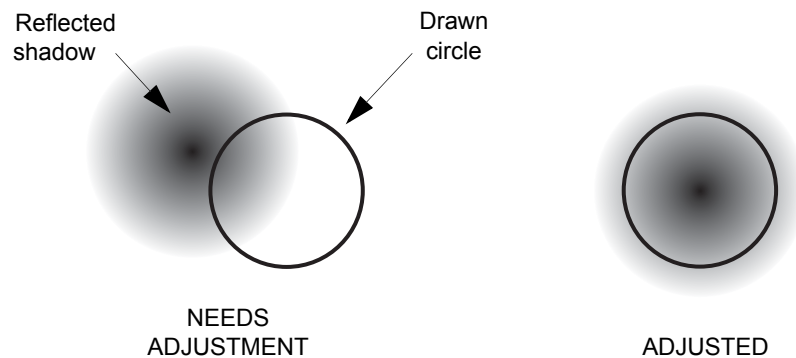

Figure 8-29 Preferred Light Patterns for PRL Alignment
6. Observe the light projection; and move the outer ring until the reflected shadow is symmetrical within and around the drawn circle; see Figure 8-29.